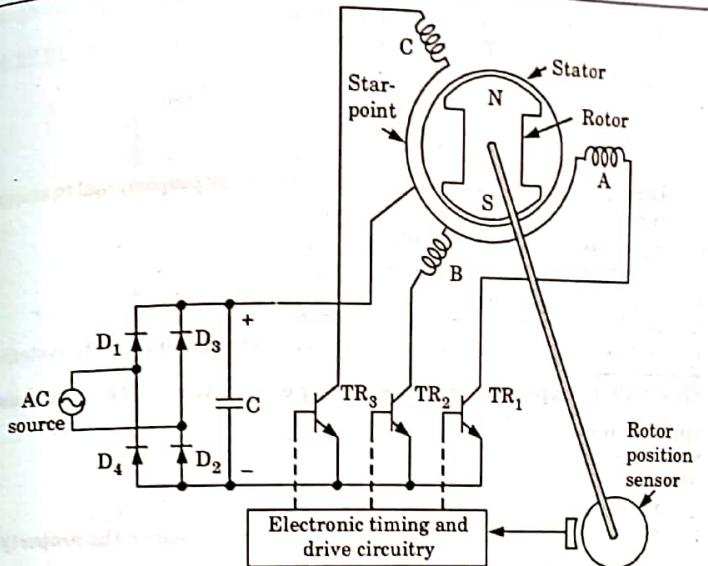

Fig. 3.22.1. Three-phase three-pulse brushless DC motor.
- Fig. 3.22.1 shows an elementary form of 3-phase, 3-pulse brushless DC motor along with its electronic controller.